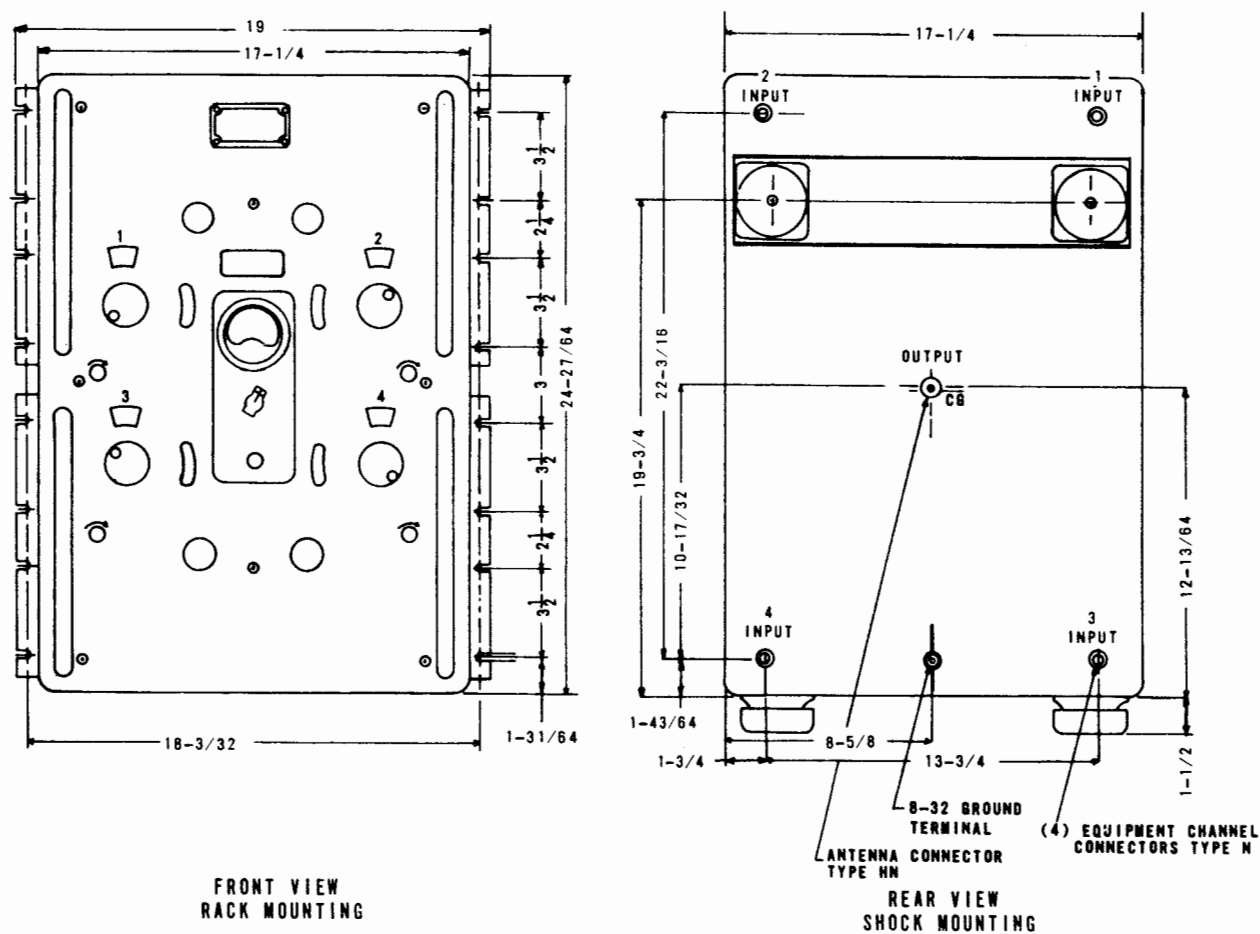

Figure 2-4 Antenna Coupler CU-691/U Physical Configuration
- b. PHYSICAL CONFIGURATION. - See Figure 2-4.